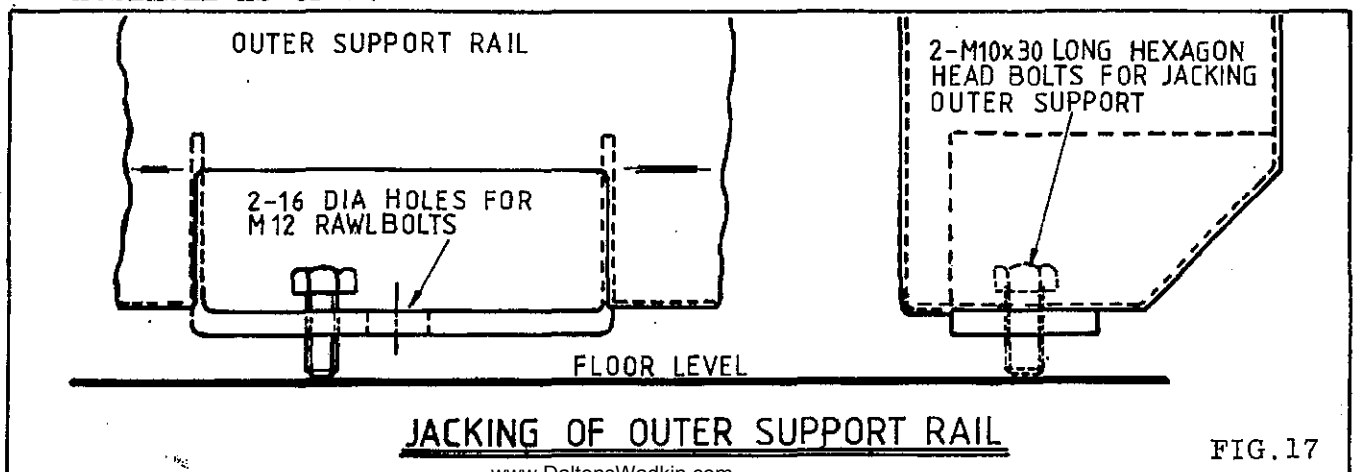

FIG. 17
- 2 Position aluminium rip fence plate FIG.15 over sliding table and outer support above each jacking bolt "C" FIG.14, check height with setting gauge provided FIG.15, jack bolt (FIG.17) to suit setting gauge.